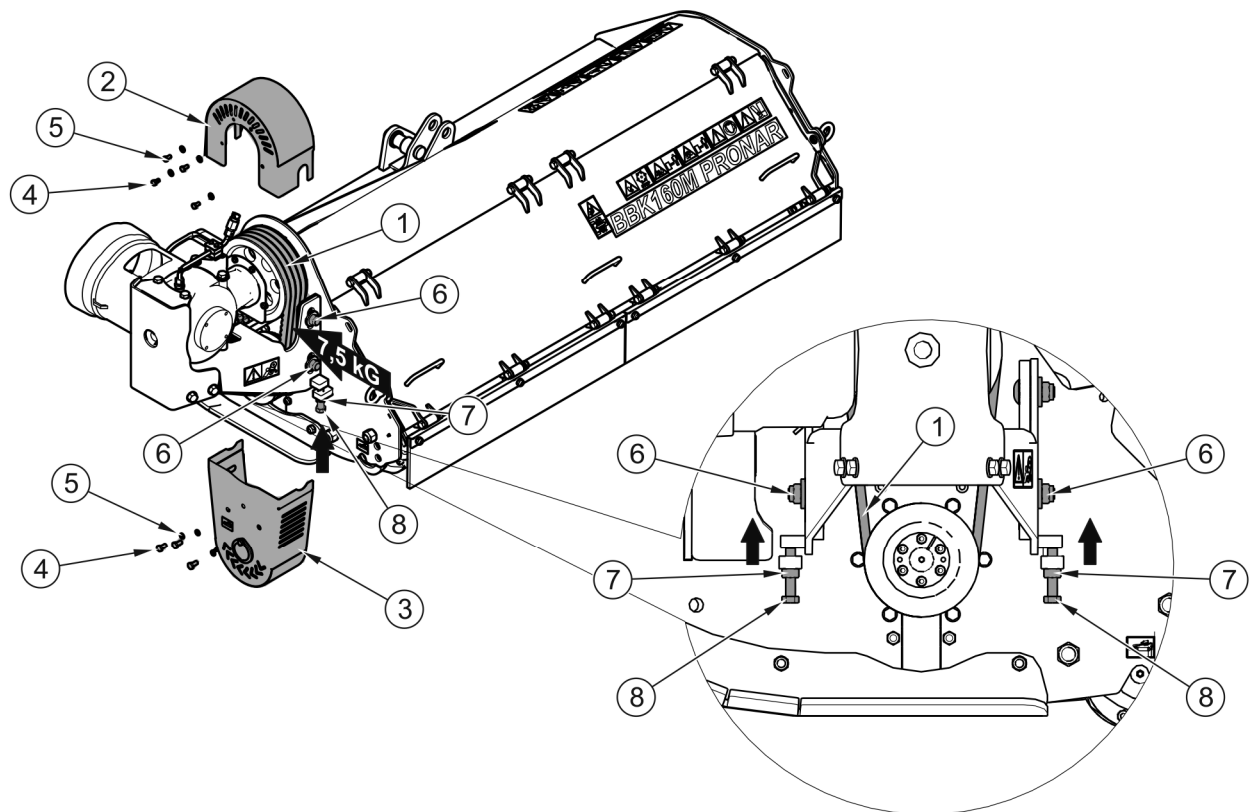

FIGURE 5.4 Checking and adjusting the tension of the serpentine belts
Inspection of vee-belts (1) (FIGURE 5.4) involves checking of the belt tension. Deflection of vee-belts measured between transmission's pulleys after application of 7.5 kG force should not exceed 8 mm (BBK120M, BBK140M, BBK160M) and 9 mm (BBK180M, BBK200M).